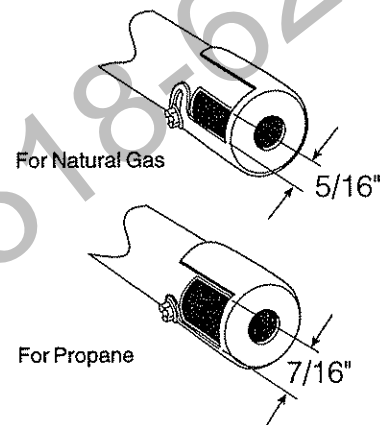

Figure 42. Air Shutter Settings.
**Step 3.** Loosen the shutter locking screw enough to adjust the setting as needed and re-tighten. Fig. 42.